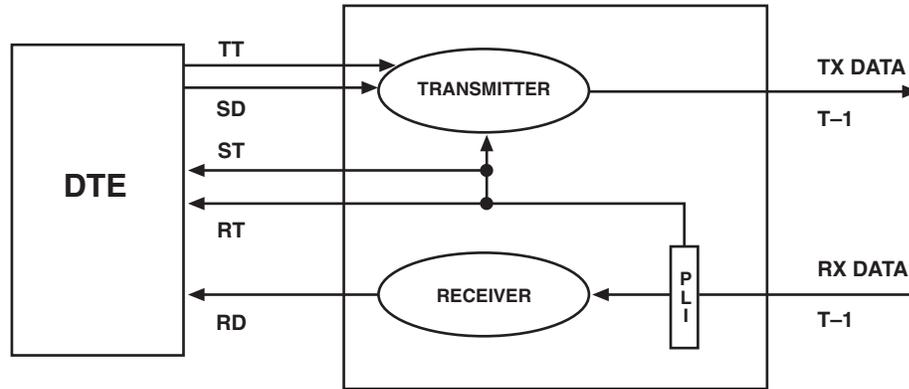

Figure 4-3. Loop (Slave) Timing Diagram.
The PLL clock signal is also used as a reference for Send Timing (ST) to the DTE and also as the clock for transmitting data to the network. In this timing scheme, both network and port timing are slaved to the same clock source. A single clock source ensures synchronization between all data transmissions. See Figure 4-3.